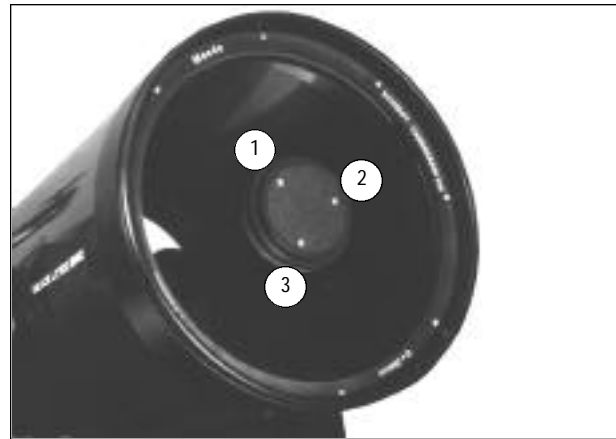

Fig.15: Collimation of the optical system.
1. To make collimation easy, the only adjustments possible on the 16" LX200 come from the three set-screws (shown in Fig.15) located at the edge of the outer surface of the secondary mirror housing.